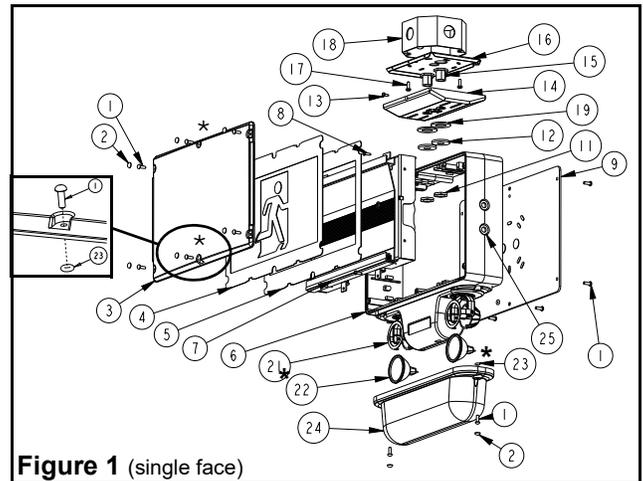
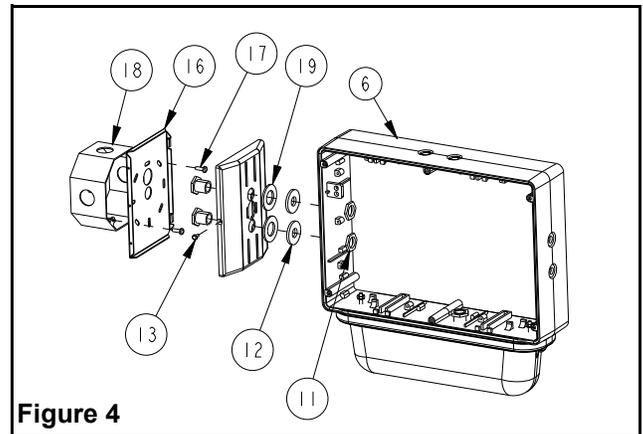

Figure 1 (single face)
Figure 4
- c. Remove proper knockouts in canopy backplate for desired mounting position. For **Nexus** wired option, install the liquidtight™ fitting, provided with the unit. For Ceiling mount, use the knockout located on top of the unit. For Side mount, use the knockout located on side of the unit (see fig. 4).
- e. Make sure the securement screw is accessible (see figures 1 & 2 part # 13). Use existing screws in junction box to secure canopy backplate to the junction box.
- h. Determine which holes in the exit frame will be used for mounting (see figures 1,2 & 4). Support frame by two blocks of wood, maximum one inch apart. Strike knockouts with a hammer and screwdriver. Clear holes of burrs to allow proper assembly of nipple/wire assembly. Note: end mount installation is weatherproof but not certified Nema 4X (see figure 4).
- i. Secure canopy to the frame by threading the provided nipple/wire assembly through the canopy and frame. Make sure the gasket washers are between the canopy and frame, and that the locknuts(11) are inside the exit sign (see figure 4).
6. Install the lens-legend by using the 6 tamper-proof screws. The o-rings have to be installed on the center screws between the lens-legend and the frame as shown in figures 1 and 2.